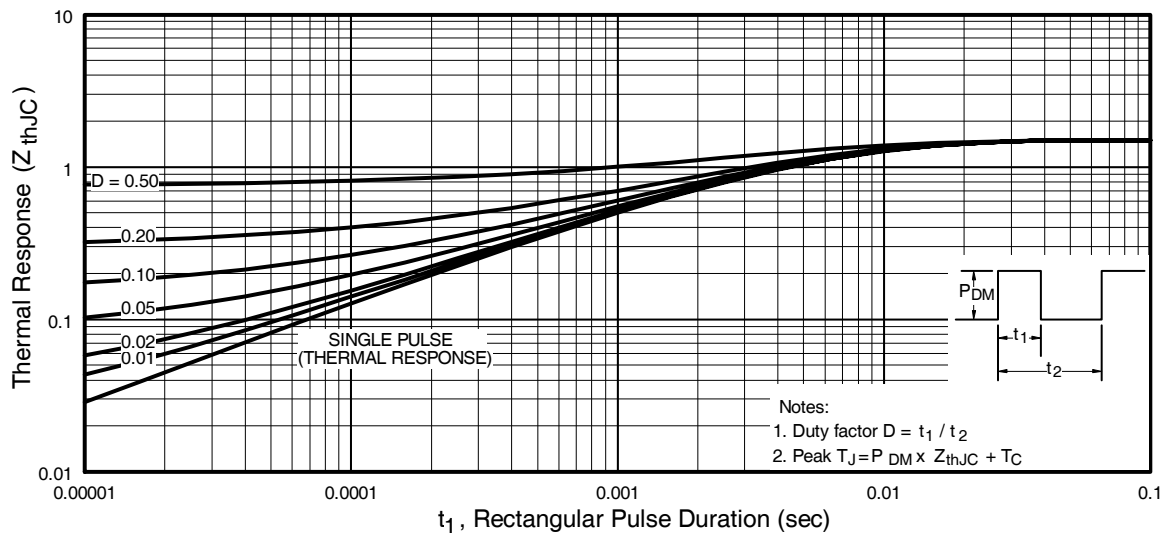

Fig 11. Maximum Effective Transient Thermal Impedance, Junction-to-Case
① Repetitive rating; pulse width limited by max. junction temperature. (See fig. 11)
② Starting $T_J = 25^\circ\text{C}$, $L = 0.48\text{mH}$